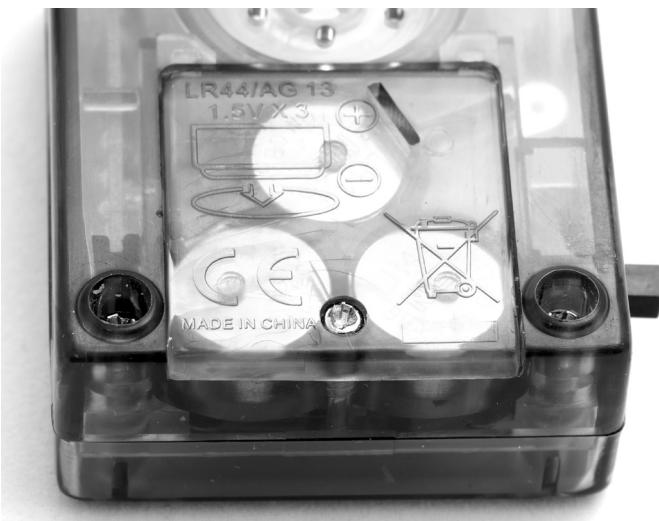

Fig. 2
- (b) The surface of the battery case has information moulded into it as shown in Fig. 2.